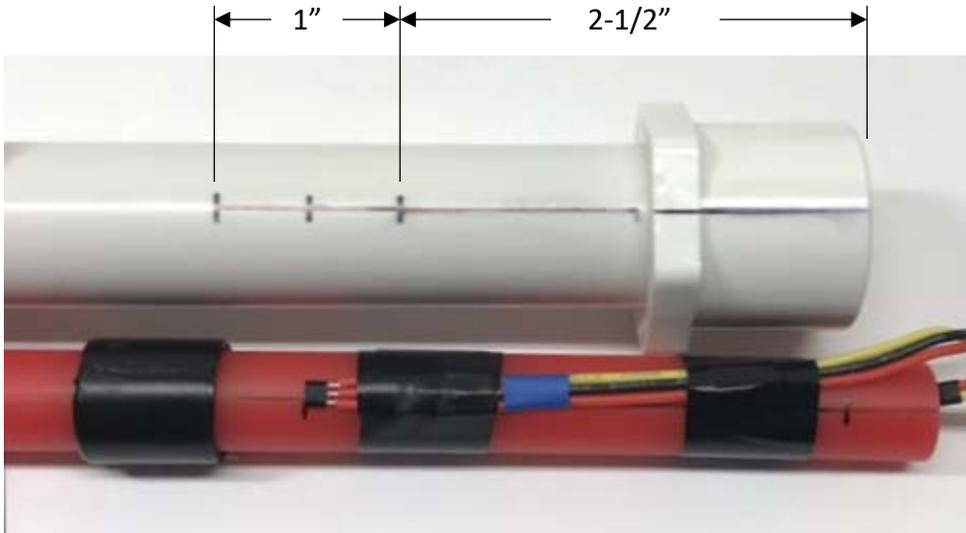

Figure 3.10
12. Mark the pipe and busing adapter (the glued assembly from step 11) as shown in Figure 3.10.